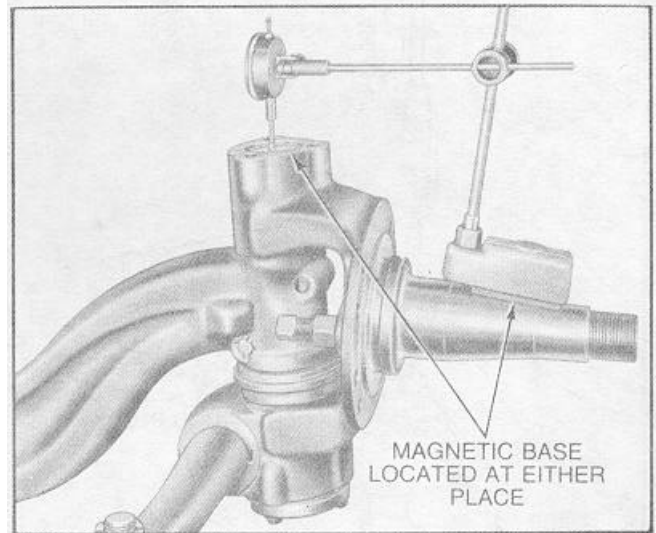

Figure 33
- B. Attach the dial indicator with a "C" clamp or magnetic base to the knuckle spindle such that the knuckle can be turned freely as shown (Figure 33).
- C. Place the dial indicator plunger on the exposed end of the king pin so that its line of action is approximately parallel to the king pin center line (Figure 33).